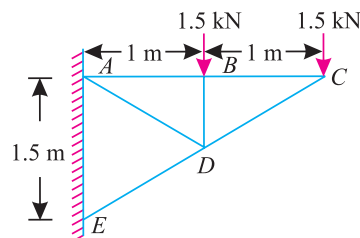

Fig. 13.37.
- Determine the forces in the various members of a pin-jointed frame as shown in Fig. 13.37. Tabulate the result stating whether they are in tension or compression.